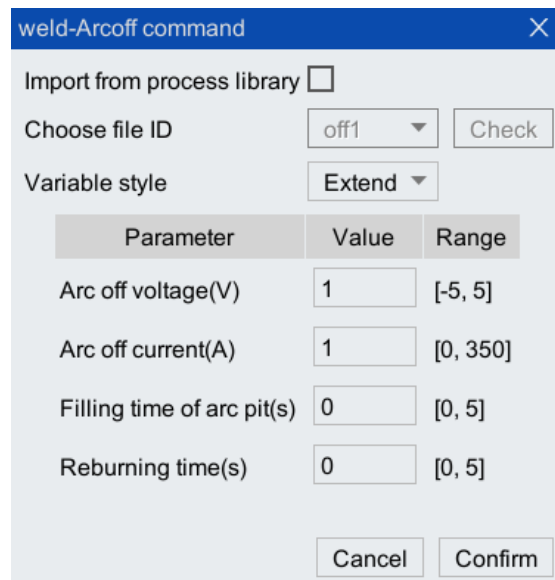

Figure 10-13 Arc off instruction configuration interface
- Step7. Click [Insert cmd/Function Package/weld/Welding Command/Arcoff command], and configure [Arc off voltage] and [Arc off current] in the pop-up configuration interface (as shown in Figure 10-13). Click on <Confirm>.